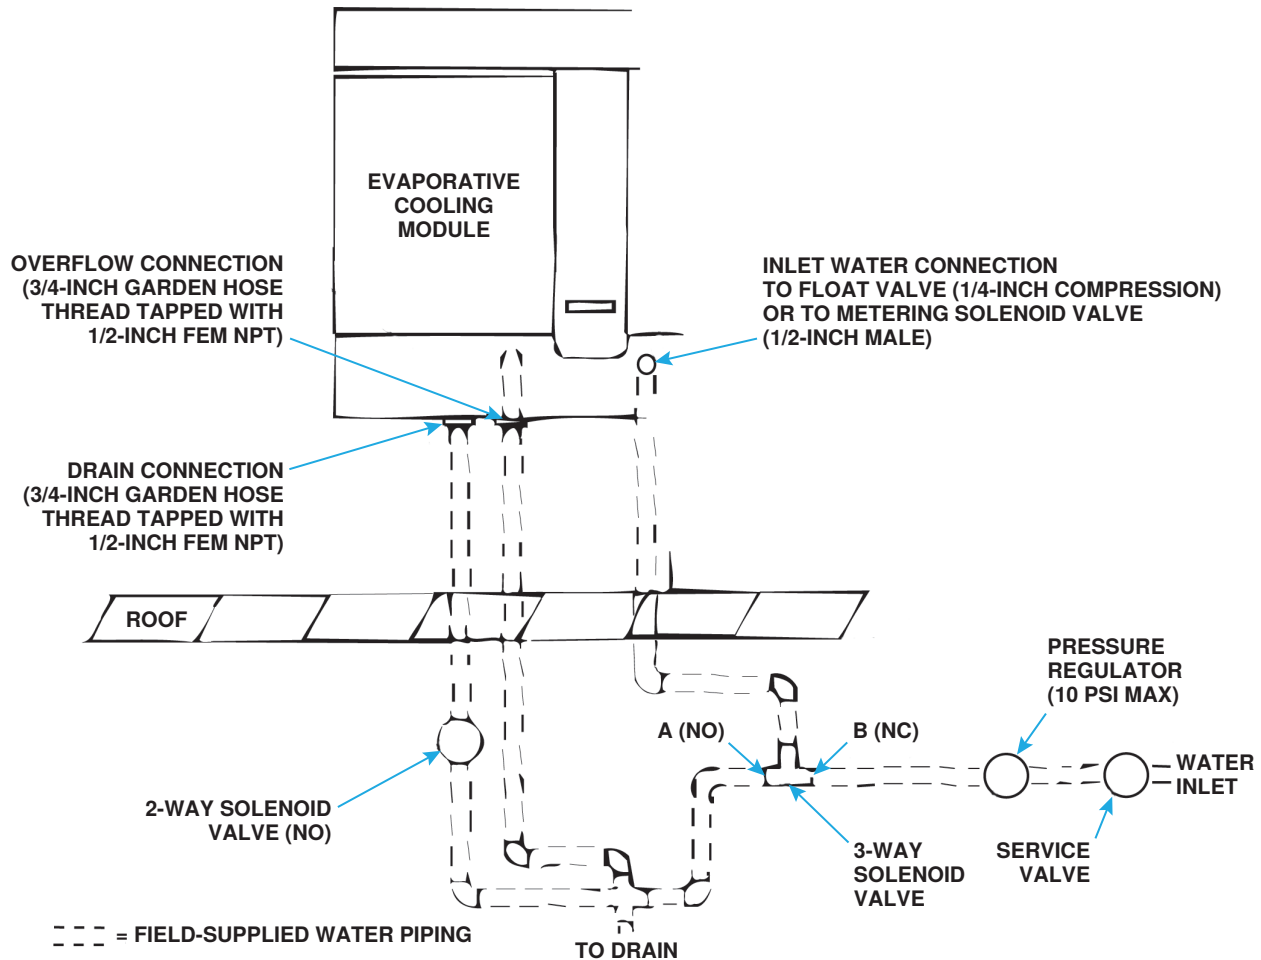

Figure 12. Fill and Drain Kit Connections
1. Connect water line (see Figure 12):